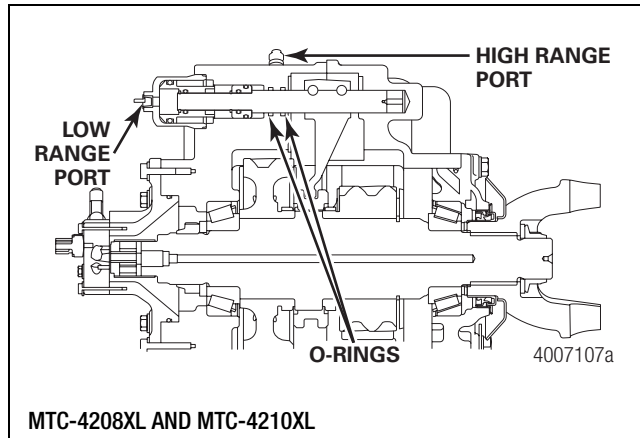

Figure 6.27
1. Lubricate and install the O-ring into the rear cover push rod journal. Use a light coat of lithium-based grease, Meritor specification O-668, prior to cover installation. Figure 6.27.